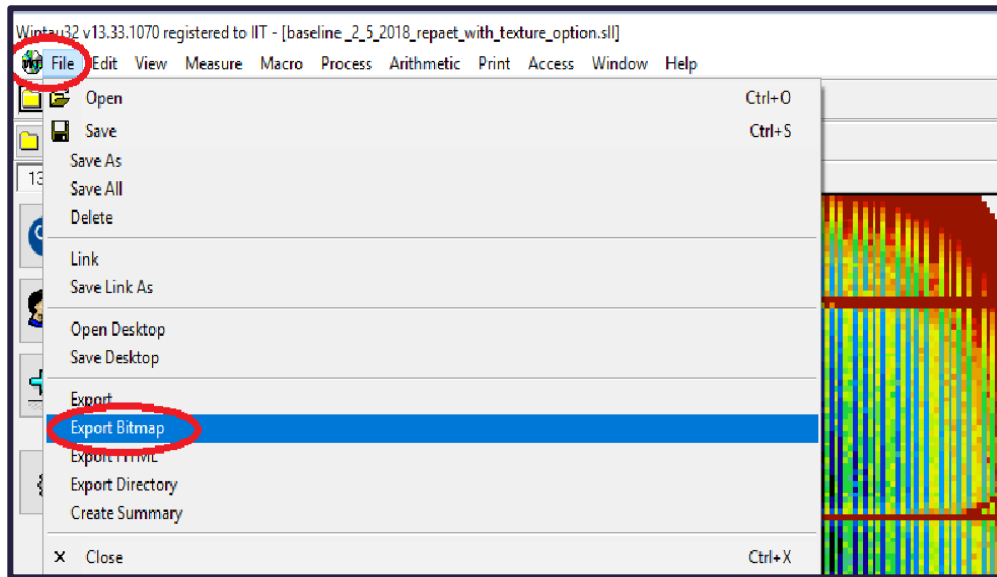

Figure. 22
22. Can save the map and histogram by clicking “File/Export bit map”. (Figure. 22)